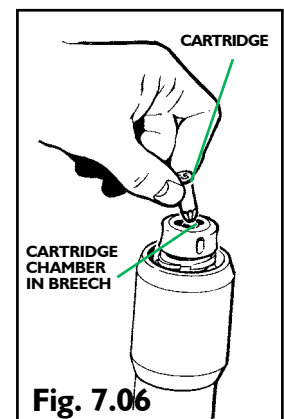

Fig. 7.06
- 2.2 Obtain a single cartridge, and load the cartridge into the cartridge chamber crimped end first. (See Fig 7.06)